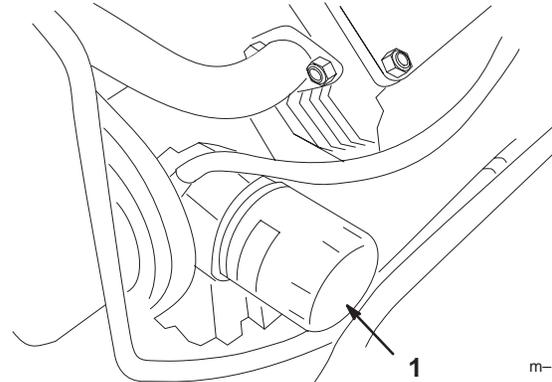

Figure 32
3. Remove the old filter (Fig. 32) and wipe the surface of the filter adapter gasket.